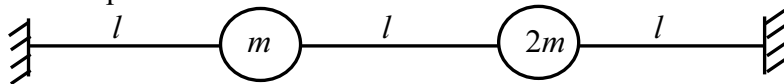

Fig. 2
- 13 A rotor of mass 14 kg is mounted at mid point of a steel shaft of 25 mm diameter supported between two bearings which are 40 cm apart. The rotor has an unbalance of 0.25 kg-cm. If the rotor runs at 6000 rpm, determine: (1) critical speed of the shaft (2) The maximum and minimum stress developed in the shaft (3) the dynamic load transmitted on each bearing. Take $E = 210 \text{ Gpa}$ and density of shaft material $\rho = 8 \text{ gm/cc}$.
- 15 Determine the natural frequencies and the corresponding modes of vibration of the system shown in Fig. 2. The string is stretched with a large tension T . Also draw the mode shapes.